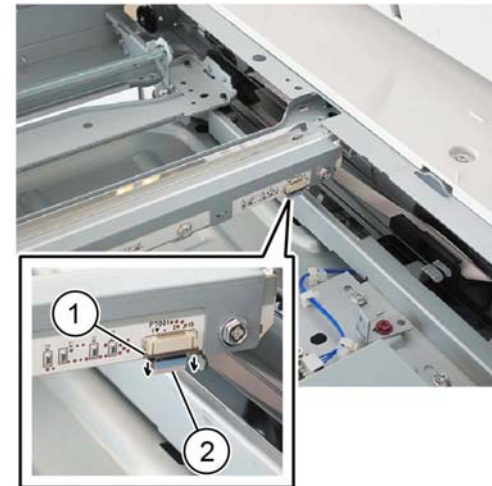

Figure 1 FFC LED cable assembly
3. Disconnect the FFC LED cable assembly, **Figure 1**:
- a. Move the connector housing catch (2) in the direction of the arrows.
- b. Disconnect the FFC LED cable assembly (1).